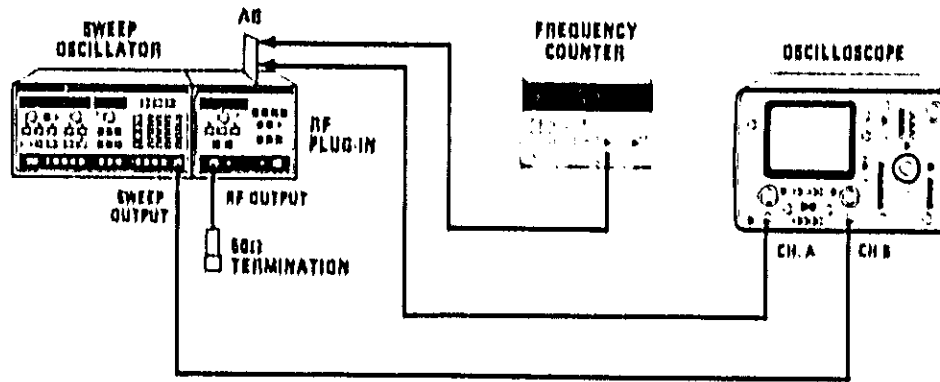
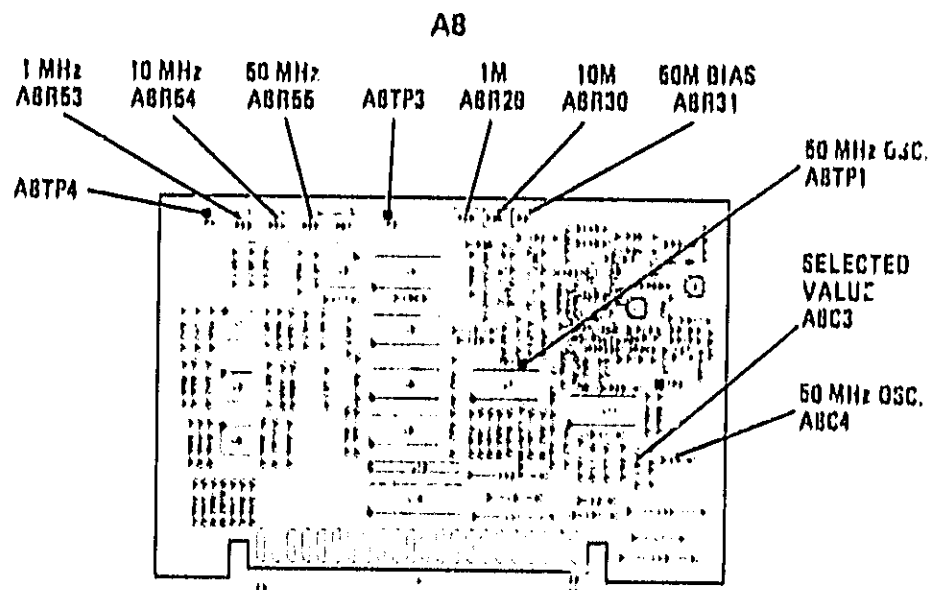
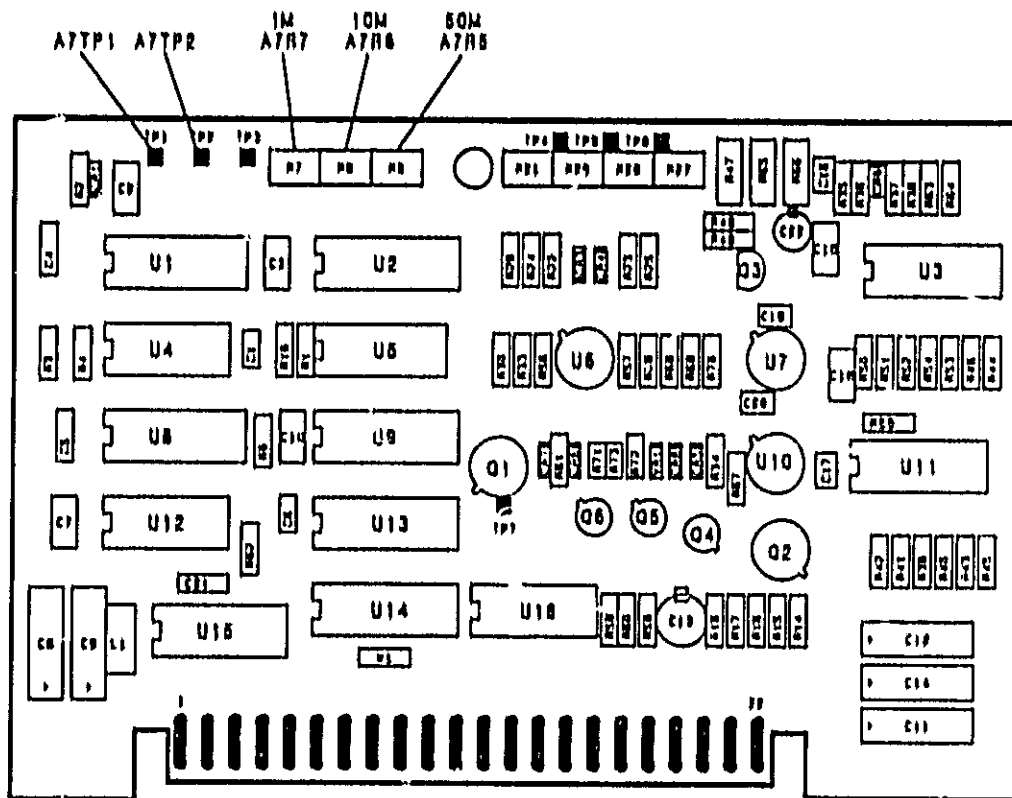

Figure 5-32. Marker Adjustments Test Setup
Figure 5-33. Marker Adjustments on A8
Figure 5-36. Marker Adjustments on A7
1. Place A8 assembly on extender board. Connect equipment as shown in Figure 5-32. For all adjustments and test point locations refer to Figure 5-33 Marker Adjustments on A8 or Figure 5-36 Marker Adjustments on A7. Terminate 8350A RF output in 50 Ohms. Set 1740A oscilloscope to A vs B sweep mode to obtain horizontal deflection as a function of the 8350A/B SWEEP OUT.